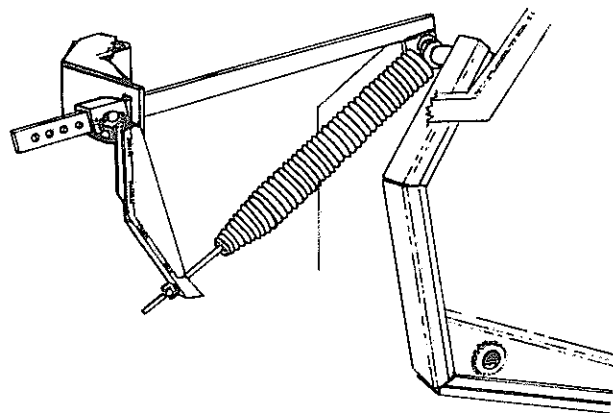

Fig. 5
3. Lower the pickup to the baling position and make sure the pickup fingers do not dig into the ground while operating. Adjust the maximum pickup depth with the depth stop, see Fig. 5.